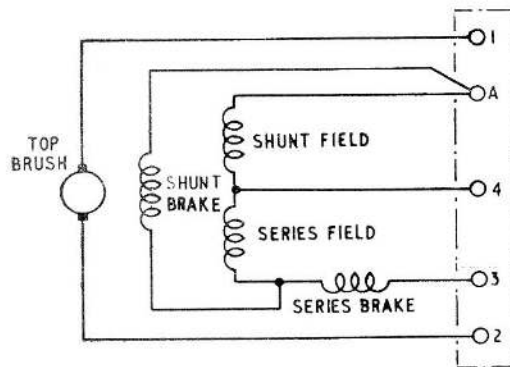

Fig. 2. Wiring diagram (high speed motor)
16. Essentially, both motors are exactly the same, but the plug connections are purposely made non-interchangeable (fig. 2 and 3).